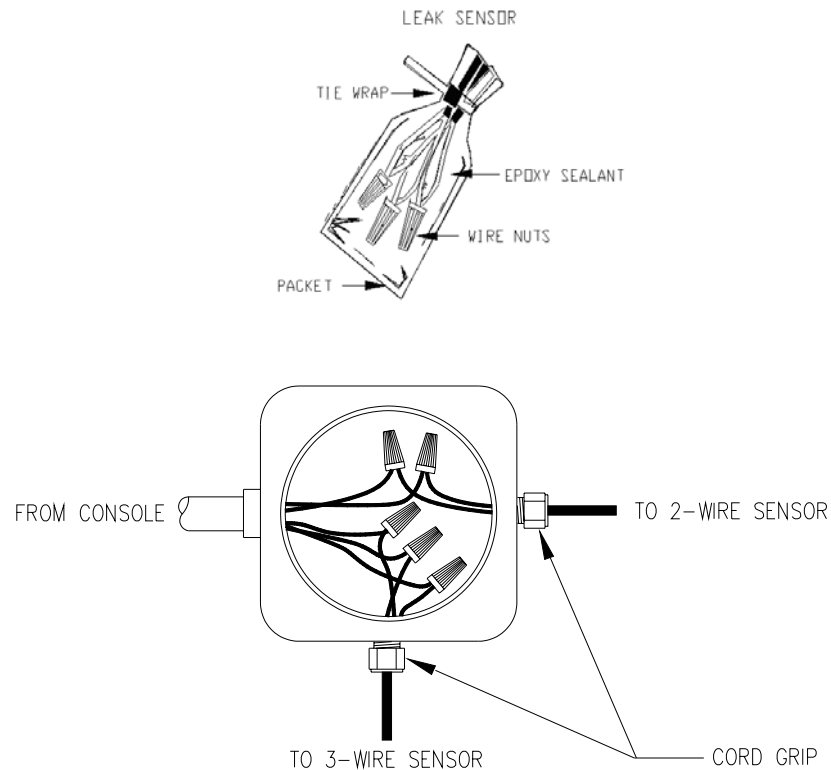

Figure 7: Seal Pack and Junction Box Overviews
2. Connect sensor wiring to field wiring *inside the junction box* (see *Figure 7* on page 14). Strip 1/2" insulation from each wire and twist wires together. Secure wires with wire nuts.
3. Seal all connections with the supplied epoxy seal packs (*Figure 7*).
See *Figure 7*. Seal all wiring connections between the sensor and field wiring to prevent corrosion and bad connections. Use the supplied epoxy seal packs.
5. Seal electrical connections with epoxy seal packs (*Figure 7* on page 14).
8. Seal the electrical connections with the epoxy seal packs (*Figure 7* on page 14).
4. Seal the electrical connections with the epoxy seal packs (Figure 7 on page 14).